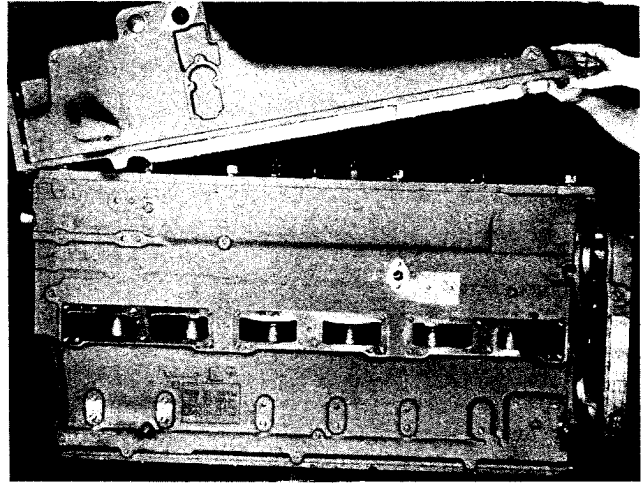

Fig. 0-29, (N100115). Removing oil pan
3. Remove oil pan (Fig. 0-29); discard gasket.